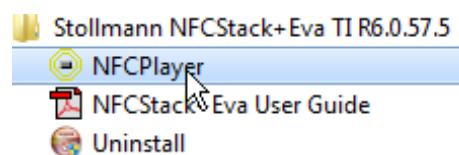

Figure 20.
3. Execute the NFCPlayer by navigating to the "Stollmann NFCStack + EVA TI R6.0.57.5" folder (should be in the "Program Files" directory), and double click the NFCPlayer Icon as shown in Figure 20.